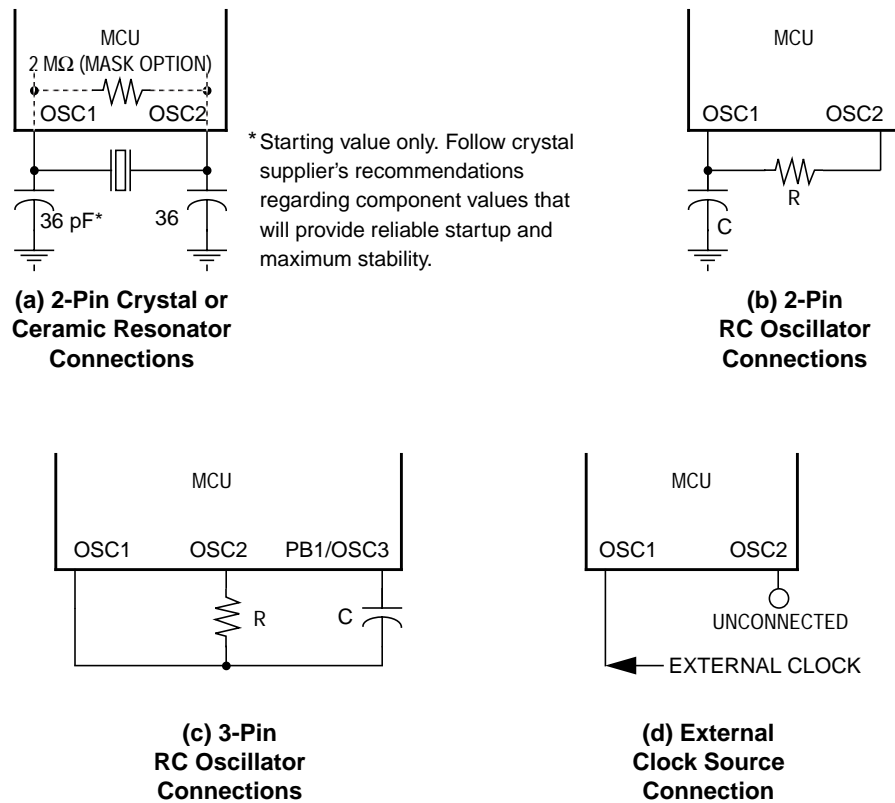

Figure 1-5. Oscillator Connections
1. A crystal, as shown in Figure 1-5\(a\)
2. A ceramic resonator, as shown in Figure 1-5\(a\)
3. An external resistor and capacitor using two pins, as shown in Figure 1-5\(b\)
4. An external resistor and capacitor using three pins, as shown in Figure 1-5\(c\)
5. An external clock signal, as shown in Figure 1-5\(d\)
The circuit in Figure 1-5\(a\) shows a typical 2-pin oscillator circuit for an AT-cut, parallel resonant crystal. The crystal manufacturer's recommendations should be followed, since the crystal parameters determine the external component values required to provide maximum stability and reliable startup. The load capacitance values used in the oscillator circuit design should include all stray capacitances. The crystal and components should be mounted as close as possible to the pins for startup stabilization and to minimize output distortion. An internal startup resistor of approximately $2\text{ M}\Omega$ is provided between OSC1 and OSC2 when the crystal/ceramic resonator oscillator option is used.
In cost-sensitive applications, a ceramic resonator can be used instead of the crystal. The circuit in Figure 1-5\(a\) is designed for either a crystal or a ceramic resonator. The resonator manufacturer's recommendations should be followed, since the resonator parameters determine the external component values required for maximum stability and reliable starting. The load capacitance values used in the oscillator circuit design should include all stray capacitances. The ceramic resonator and components should be mounted as close as possible to the pins for startup stabilization and to minimize output distortion. An internal startup resistor of approximately 2 MΩ is provided between OSC1 and OSC2 for the crystal/ceramic resonator oscillator mask option.
The 2-pin RC oscillator configuration can be used for very low-cost applications. With this option, a resistor must be connected between the two oscillator pins and a capacitor must be connected from the OSC1 pin to V_{SS} , as shown in Figure 1-5\(b\). The signal on the OSC2 pin is a square wave and the signal on the OSC1 pin approximates a triangular wave.
Another low cost, but more accurate, type of RC oscillator is the 3-pin configuration utilizing the PB1/OSC3 pin. With this option, a resistor must be connected between the OSC1 and OSC2 pins and a capacitor must be connected between the OSC1 and PB1/OSC3 pins, as shown in Figure 1-5\(c\). This 3-pin RC oscillator is more accurate than the 2-pin RC oscillator with respect to temperature, supply voltage, and/or device processing variations. The signal on the OSC2 and PB1/OSC3 pins is a square wave and the signal on the OSC1 pin approximates a triangular wave.
An external clock from another CMOS-compatible device can be connected to the OSC1 input, with the OSC2 input not connected, as shown in Figure 1-5\(d\). This configuration is possible regardless of whether the oscillator is set up for crystal/ceramic resonator, 2-pin RC, or 3-pin RC operation. However, if the 3-pin RC oscillator is selected, the PB1/OSC3 pin also must be left unconnected.